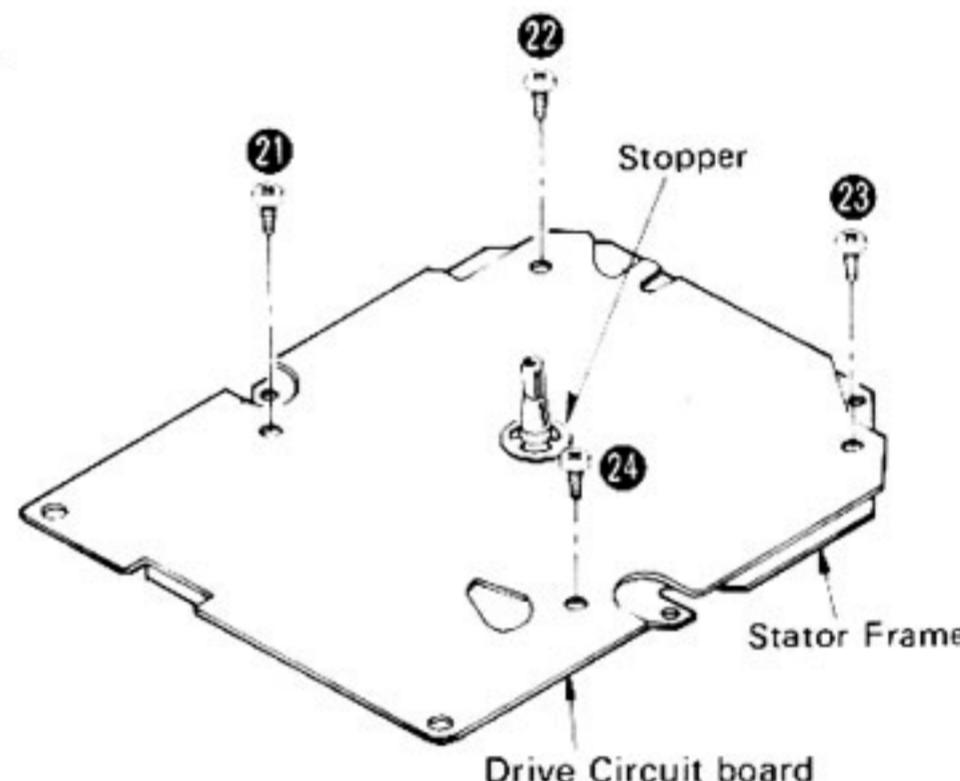

Fig. 7
4. Cut off the stopper by nippers and remove the 4 setscrews (Fig. 7: ㉑~㉒) to separate the drive circuit board and stator frame.